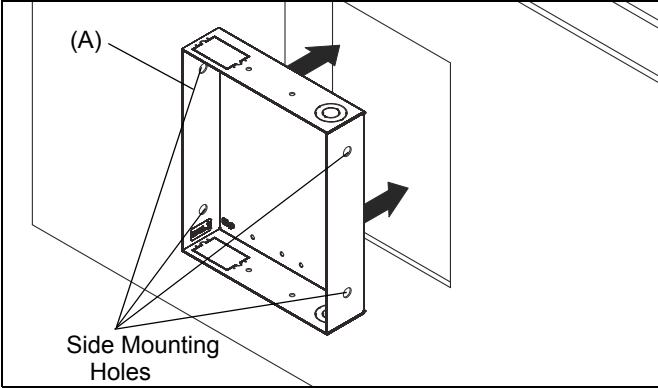

Figure 3
1. Install PAC-GB1 Listed electrical box accessory (not included) into the TA502 (A) following instructions included with the PAC-GB1.
4. Center TA502 (A) in opening and insert into opening.
5. Align front of box with front face of wall. (See Figure 3)
6. Drill four 3/16" diameter pilot holes in studs at side mounting holes. (See Figure 3)